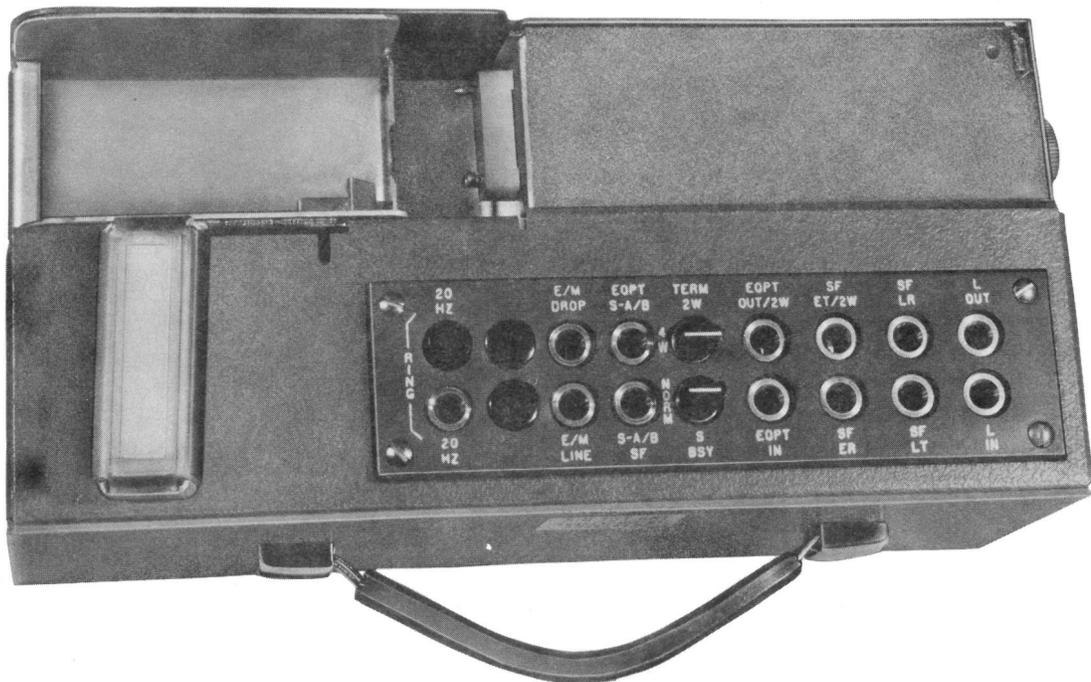

Fig. 1—Test Extender—Jacks and Keys
1.02 The extender (Fig. 1) is used at the SF units bay location. It should be placed on a stable support that is at a convenient working level. The SF unit to be tested is removed from the bay and placed in the extenders receptacle for the SF unit. The extender has a cord that connects to the SF units bay mounting.